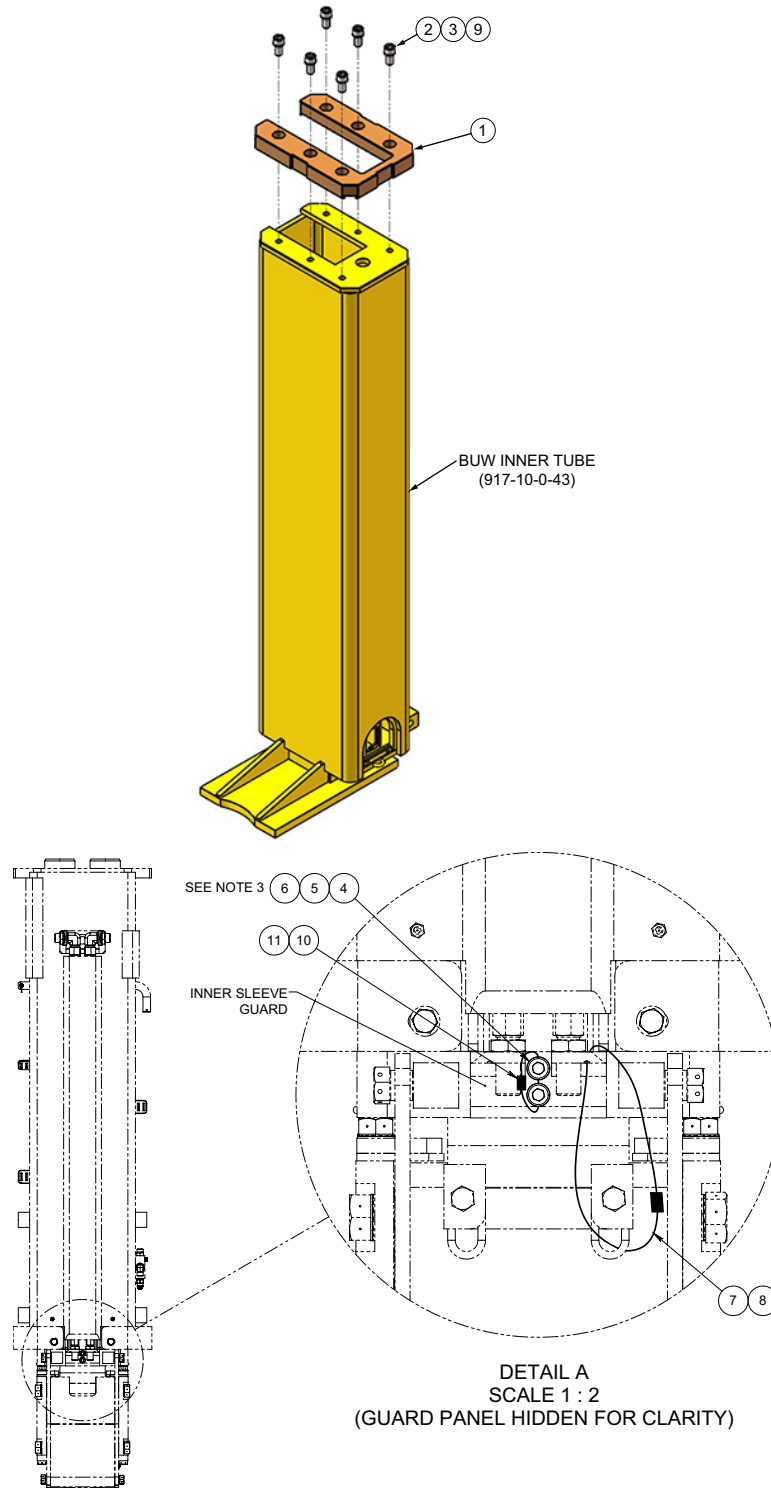

Figure 1: Field Upgrade Kit (AY26838)
3. Install the wear pad DT27442 and fasteners per modification kit AY26838 in Figure 1 on page 2. Ensure the fasteners are torqued to 149 ft-lb (202 N·m) and that Loctite is applied.